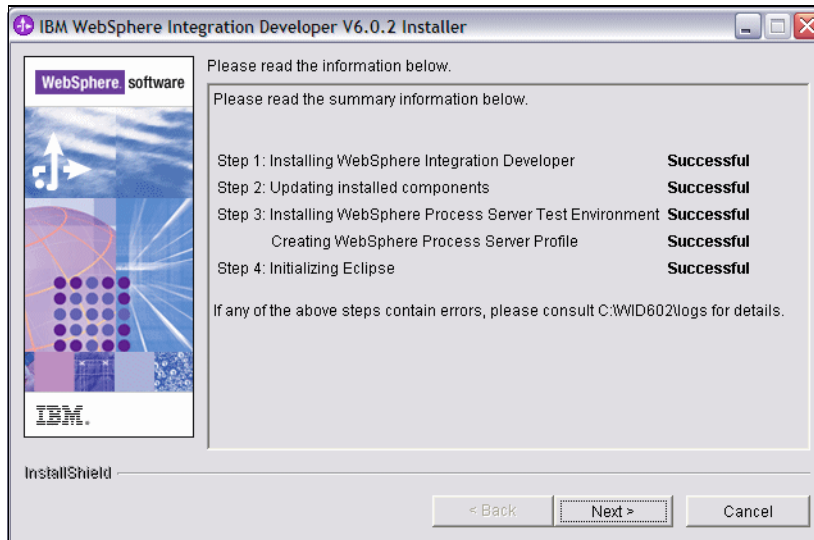

Figure A-5 Installation successful confirmation
- ▶ When the installation is finished, you receive a confirmation (Figure A-5). Click *Next*.